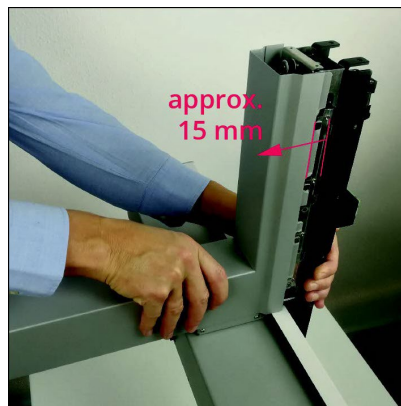

Figure 88: Rear Tower Cover Removal 1
2. Using gentle hand force, use two hands to pull the L-shaped rear tower cover backward. The required horizontal displacement is approximately 15 mm until the screw slots release from the screw holes. See Figure 88.